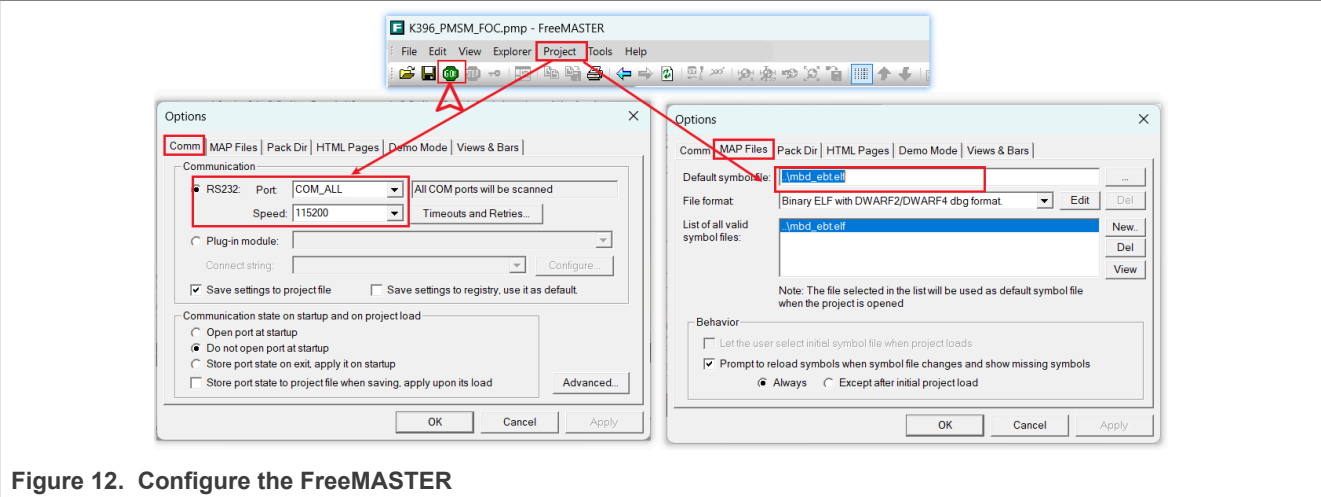

Figure 12. Configure the FreeMASTER
2. Refer to Figure 12 to configure the FreeMASTER.